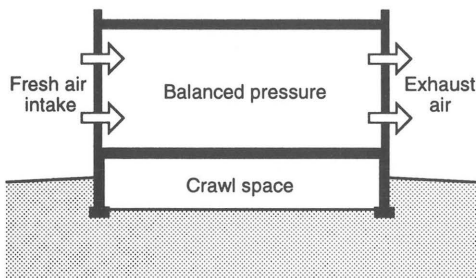

Figure 1-2: If properly designed, mechanical ventilation can dilute indoor radon concentrations.
- Dilute indoor radon levels by bringing in outdoor air—i.e. ventilating (see Figs. 1-2 and 1-3).
- Keep radon out by pressurizing a building (see Fig. 1-2 and 1-3).